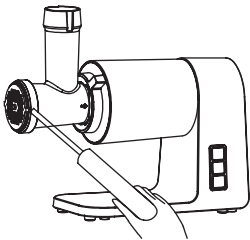

Figure 19.
4. To remove the cutting plate easily, place a screwdriver between the cutting plate and the head as illustrated and lift it up (fig. 19).